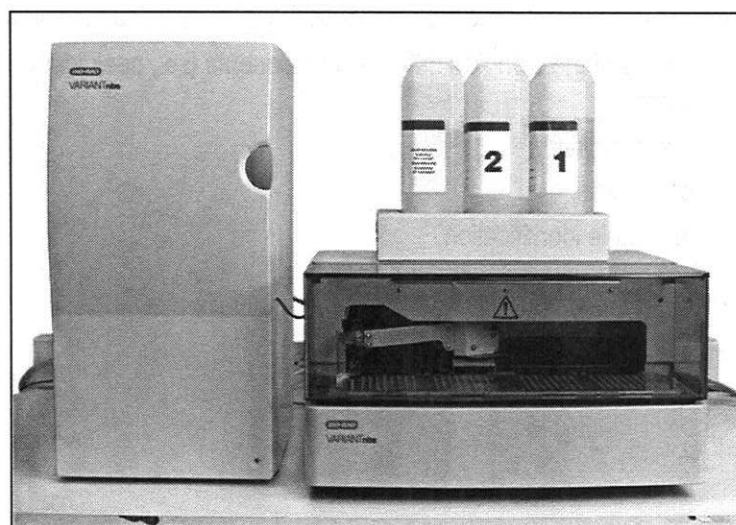

Figure 1-1: The VARIANTnbs
6. The VNCS and the VNAS should be configured as shown in Figure 1-1. No clearance is required between the modules. Ensure the VNAS and VNCS are not >11.5 cm (4.5 in.) apart to prevent sample arm movement errors.